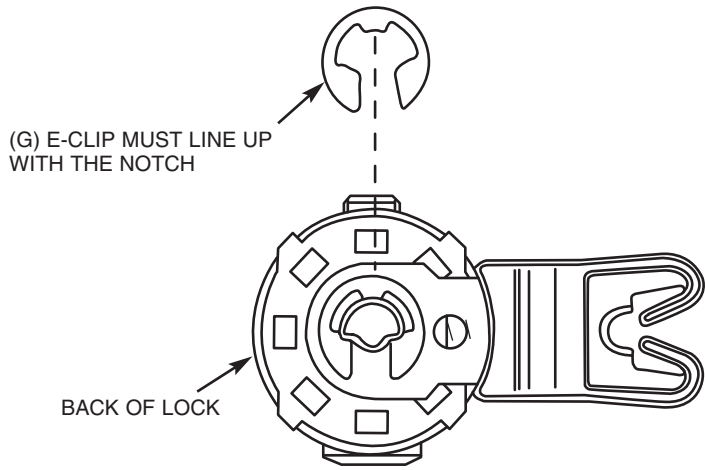

FIGURE 6
16. Assemble the lever on to the back of the lock in the orientation recorded in steps A and B above and attach the E-clip (G) to retain the lever (and switch if so equipped) to the lock, refer to Figure 6 for E-clip alignment.